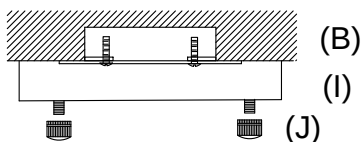

Fig 3
Fix the canopy (I) onto the (B) with nut (J) provided (Fig. 3).